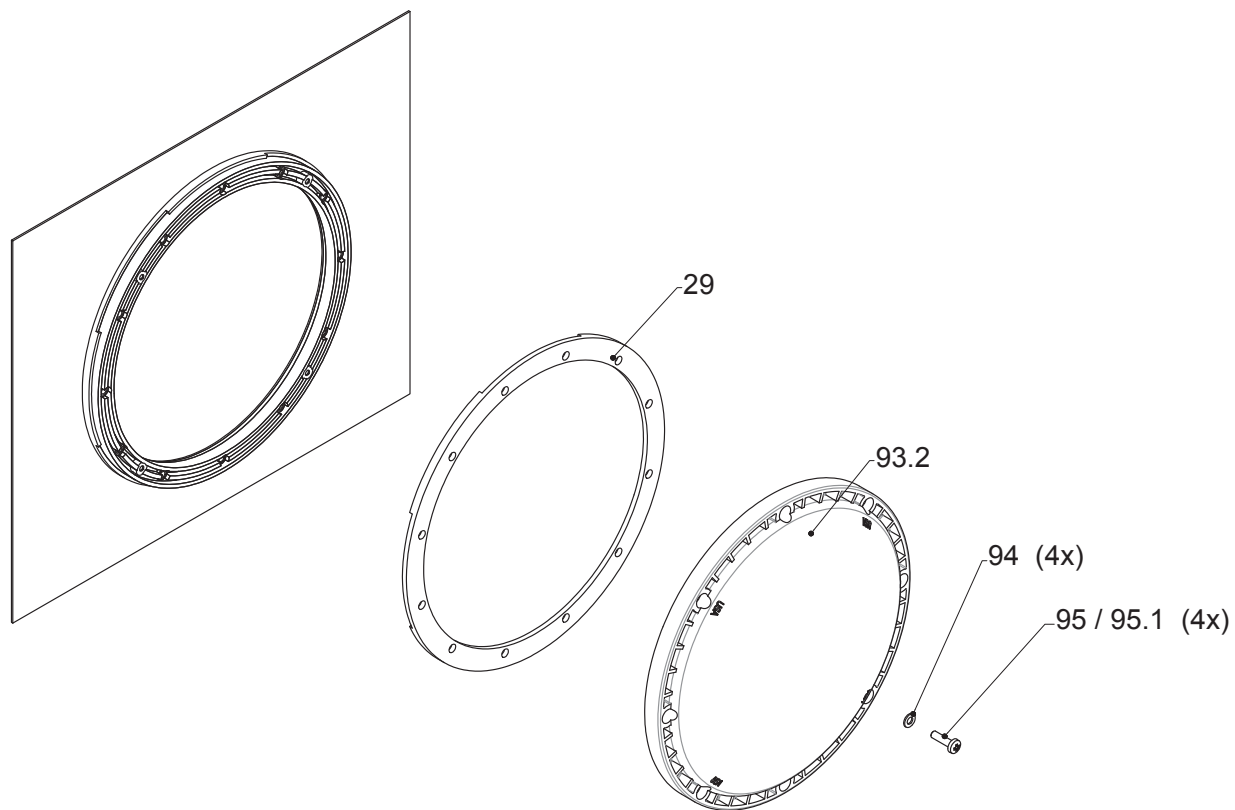

Figure 21
In areas subject to freezing water temperatures, you should protect your equipment. We recommend you purchase a winter cover kit part #113. This kit includes one (1) winter plate (part # 93.2), one (1) gasket (part # 29), four (4) washers (part # 94) and four (4) screws (part # 95). (See Figure 21)